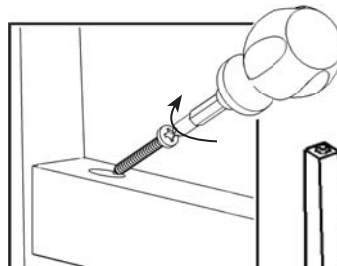

Figure 2
Attach Side Stretcher (F) to Leg (C) and Side Stretcher (E) to Leg (B) with Wood Screws. (see Figure 2)